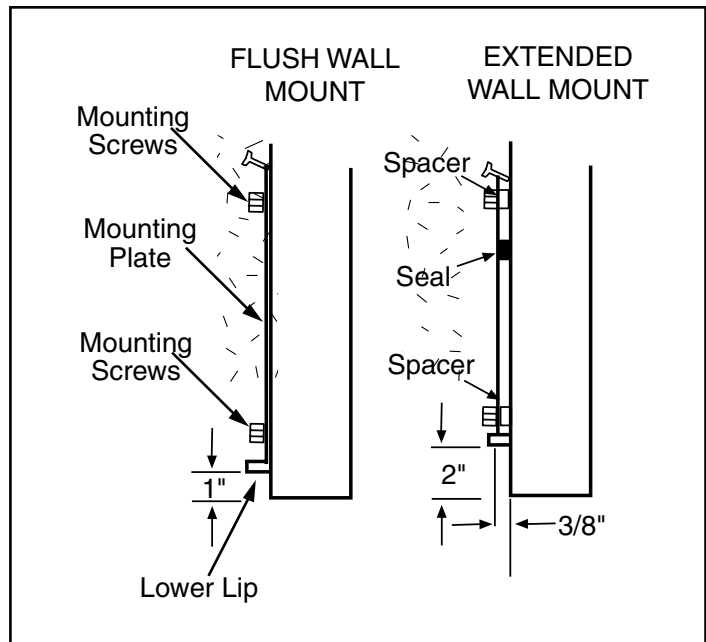

Figure 3
2. The lower lip of the mounting plate should be no more than 1" above the door opening when the unit is mounted flush to the wall. If the Air curtain must be mounted higher, it must be spaced out from the wall $\frac{3}{8}$ " for every inch the unit is above the door opening. For the best performance, any void between the Air curtain and the wall must be sealed (use foam, plastics or a similar packing). **See Figure 3.**